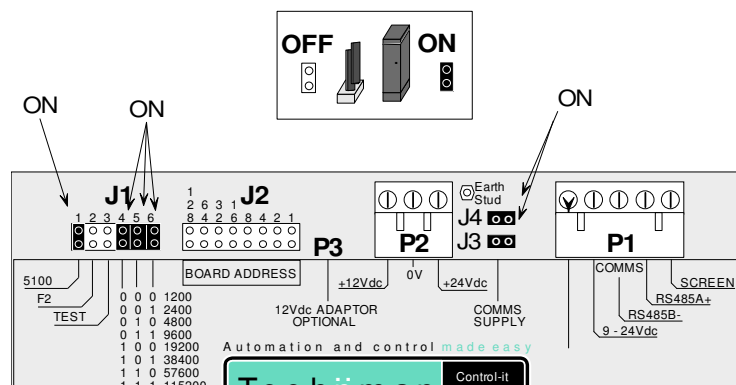

Figure 4 – Jumper settings
1. Check that all jumpers are placed as per figure 4 below. (For more, refer to page 17.)